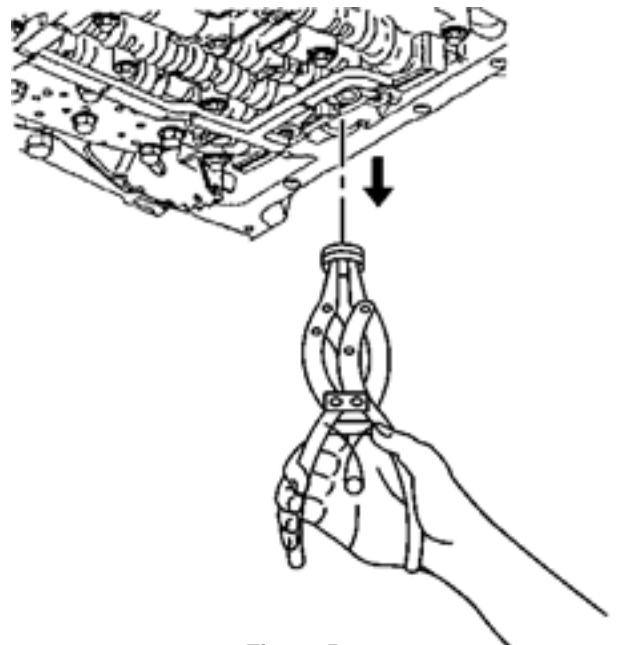

Figure 5
11. If the filter is going to be replaced, remove the filter seal. The filter seal may be stuck in the pump; if necessary, carefully use pliers or another suitable tool to remove the seal. **Reference Figure 5.**